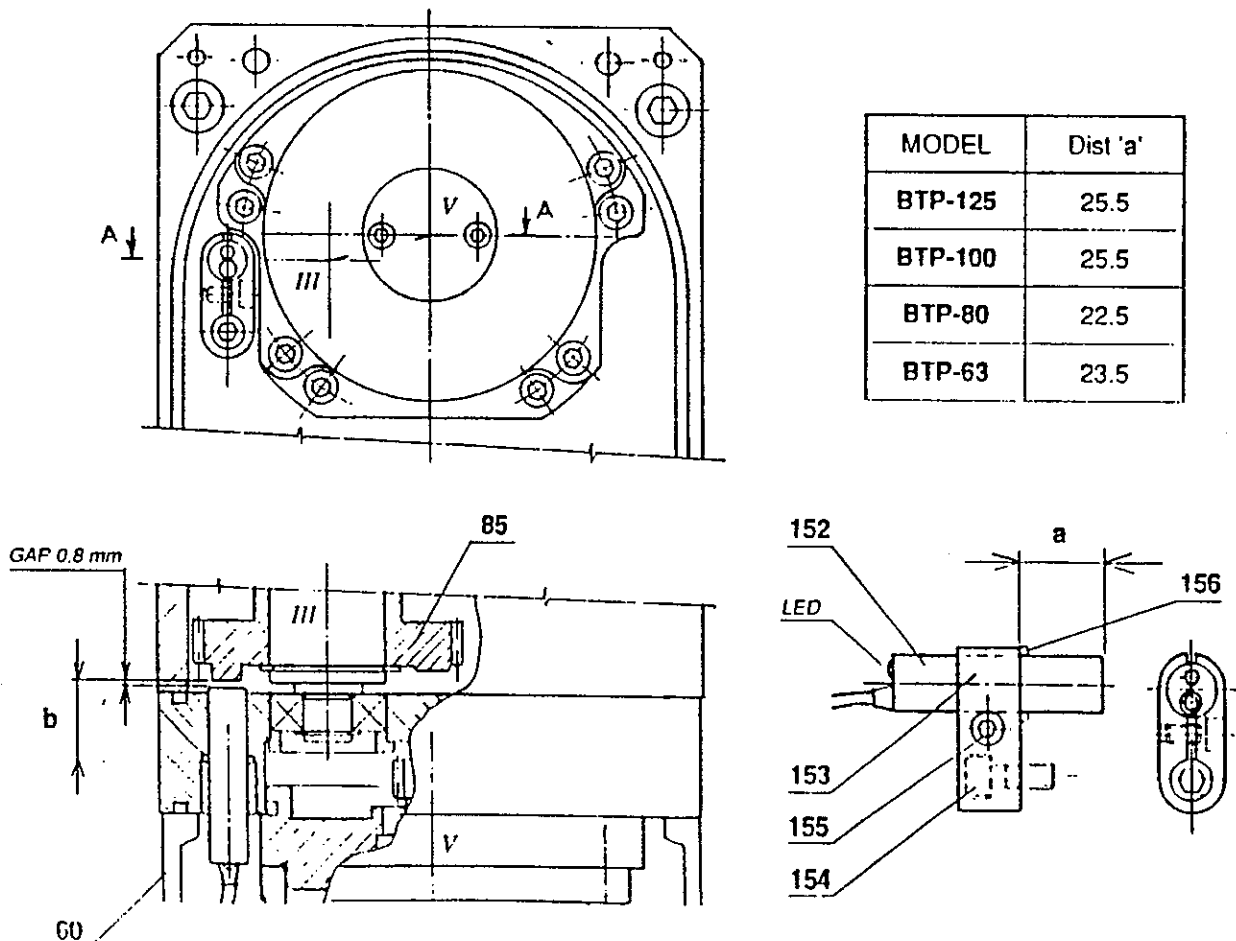

FIG 13.1
13. Proximity switch adjustment and replacement (fig. 13.1):